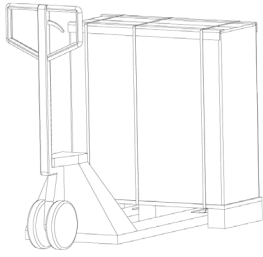

Fig. 4.
- To unpack the equipment follow the sequence from figure 4 to 7 (cut the wraps of the cardboard enclosure and remove it from the top as it was a cover or in case of wooden packaging, dismantle it with the needed tools; remove the corners and plastic bag. The UPS will be naked over the pallet.